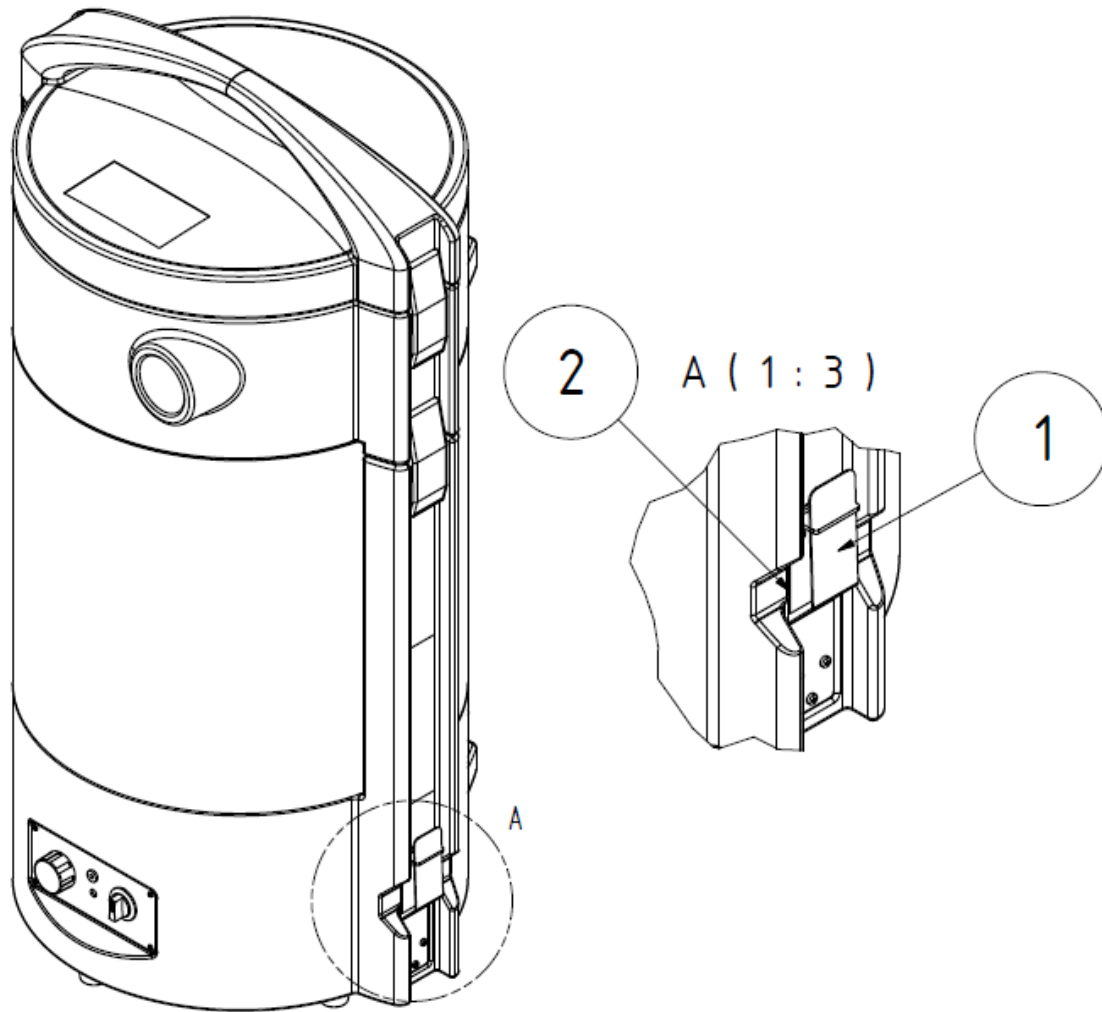

Figure 4, Start-stop unit
As soon as the sensor (Fig. 4) in the earth cable detects current, the device will start up and will only stop after the end of the welding process and a short run-on time.
- Pull the flexible tongue (Fig. 4, Pos. 1) back far enough so that you can place the welding device earthing cable between the support plate (Fig. 4, Pos. 2) and the flexible tongue.